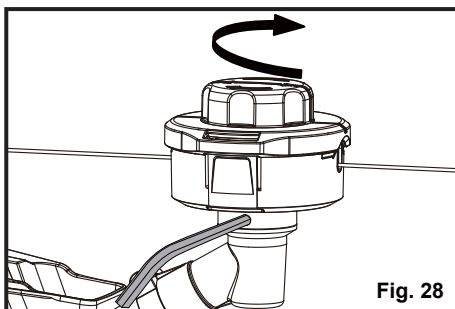

Fig. 28
TRIMMER HEAD REPLACEMENT (See Fig. 28)
- Insert the provided hex wrench into the hole on the flange to lock the spindle. Then rotate the trimmer head clockwise to remove (Fig. 28).